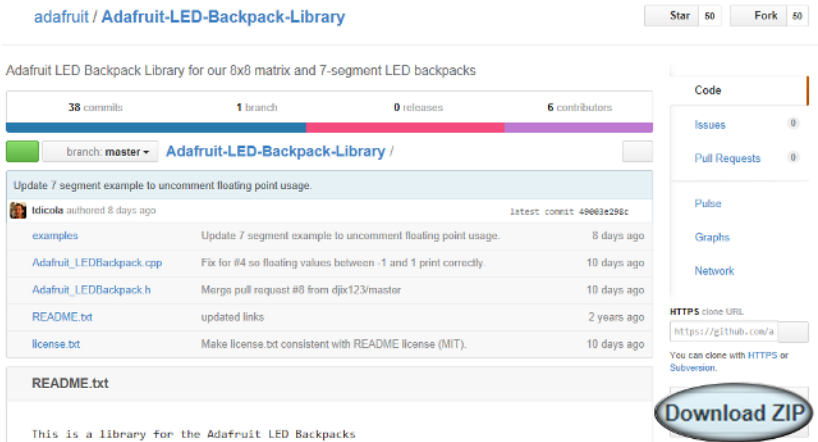

Figure 4-5. *The Download ZIP button on GitHub*
2. Download the ZIP file. Click the Download ZIP button on the GitHub repository page (Figure 4-5). Alternatively, if the code is not in GitHub, download it from the Internet site hosting the library.